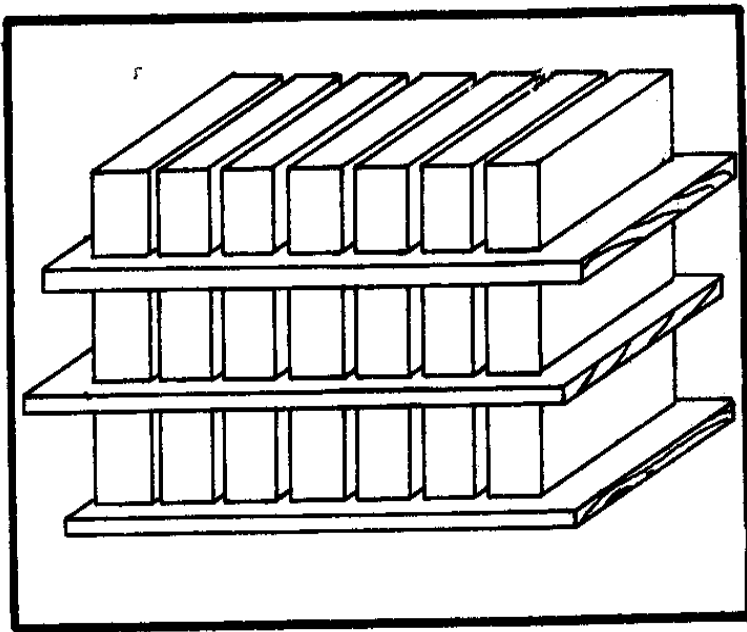

Fig. 20 - Blocks stacked for first 5-day cure.
64. The blocks should be laid on flat, unwarped, clean planks wide enough to support the full width of the blocks (See Fig. 20)